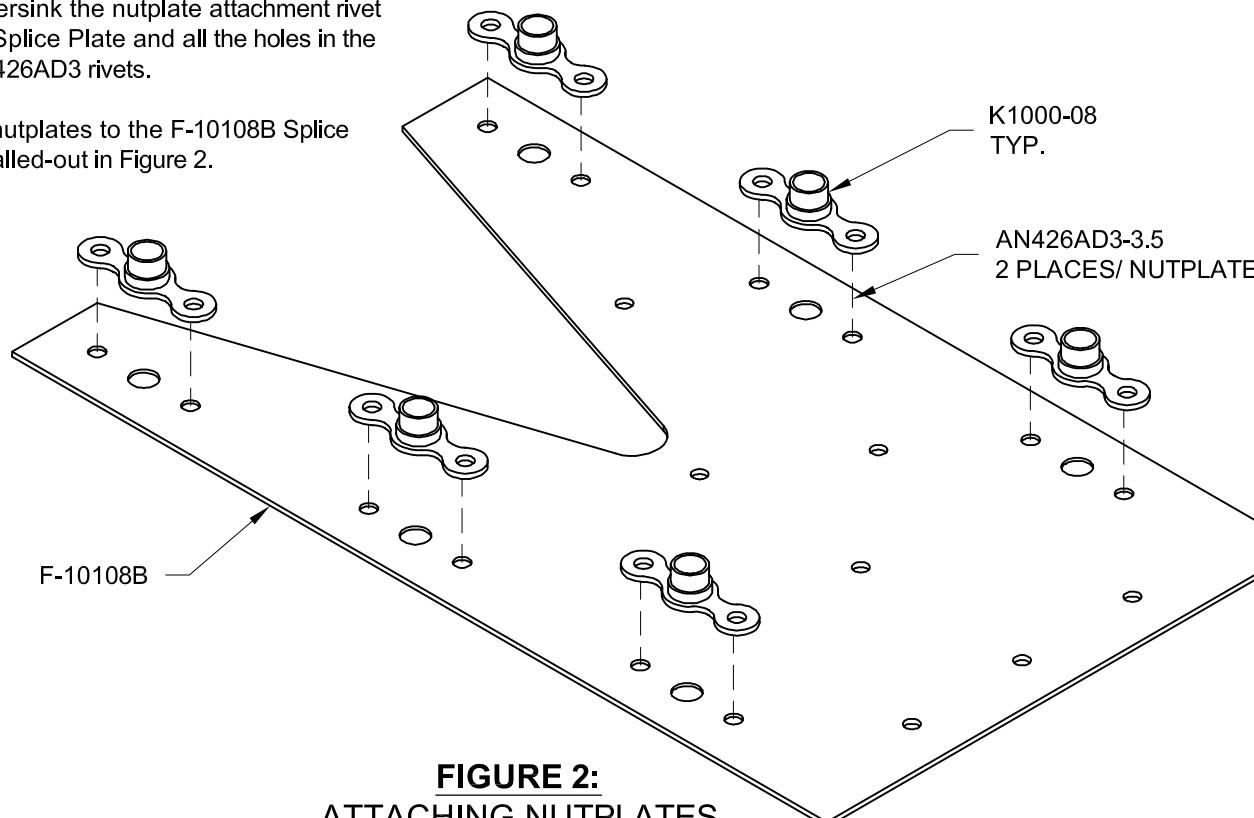

FIGURE 2:
Step 4: Attach the six nutplates to the F-10108B Splice Plate using the rivets called-out in Figure 2.